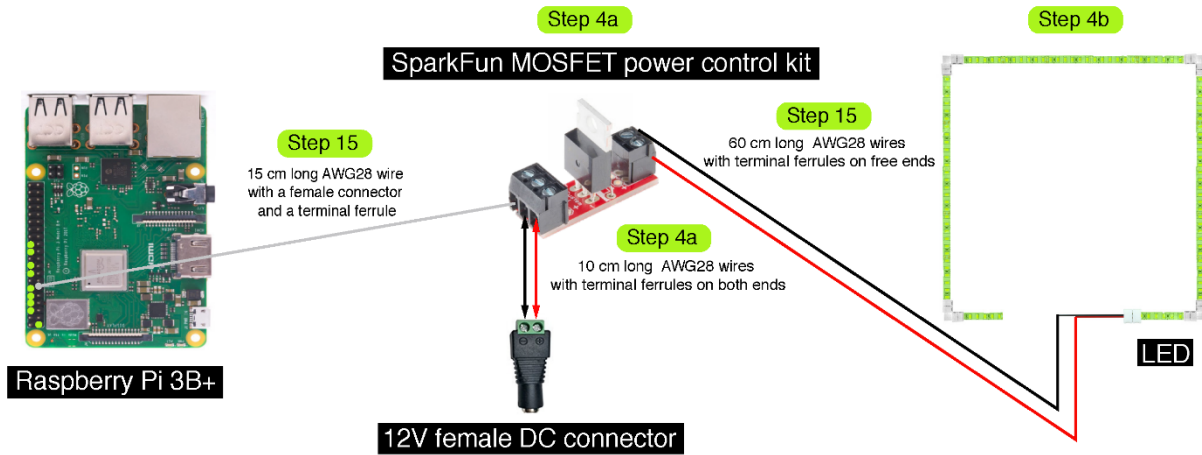

Figure 4. LED wiring.
- Cut the LED strip into three 25 cm long segments (these will be the left, top and right parts of the LED square) and two 5 cm long segments (these will be the bottom left and bottom right parts of the LED square). Connect the segments using the corner connectors. Make sure the “+” contacts on the corners are connected to the “+” contacts on the LED strip (**Fig. 4**).